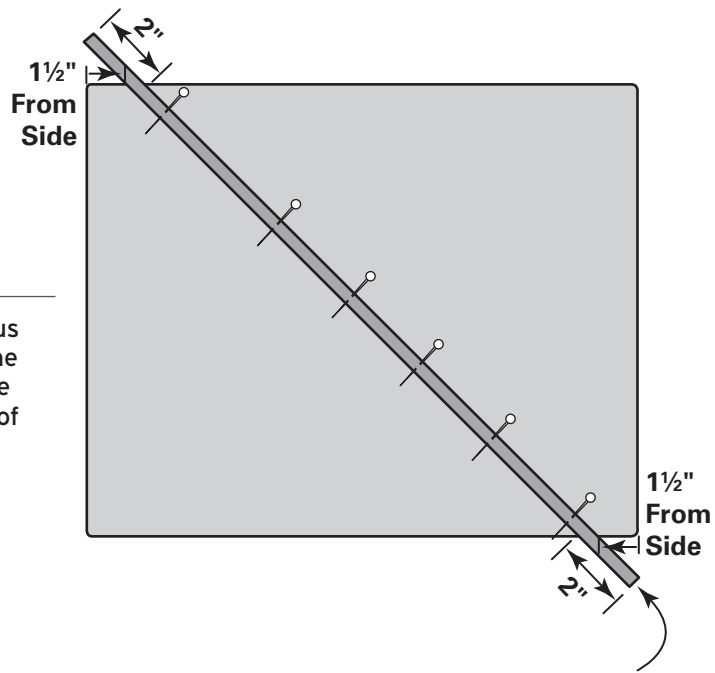

Fig. 18-3
4. To add the ribbon strips, cut a piece of ribbon to fit diagonally across the center of the front to 1½ inches (3.8 cm) from the corners, adding 4 inches (10 cm) for overlapping the ribbon to the back. Position the ribbon diagonally across the board with 2 inches (5 cm) overlapping at each end, as shown in Fig. 18-3. Pin in place.